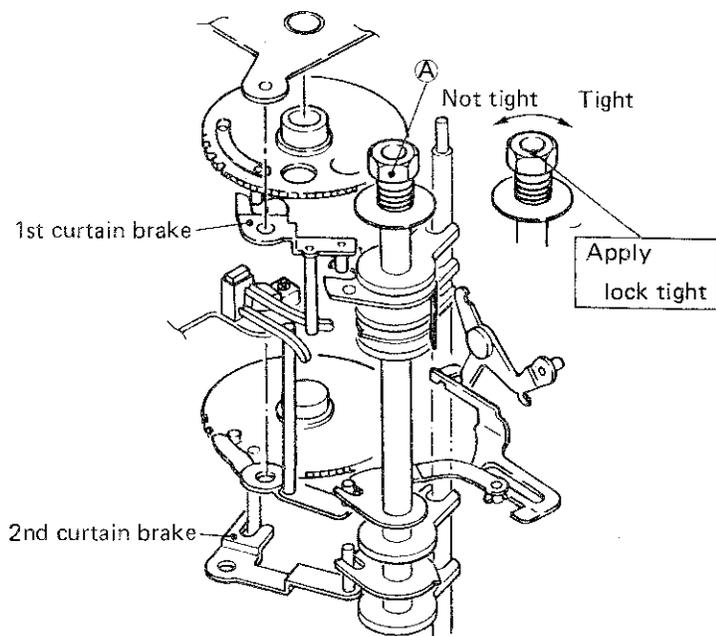

Fig. 64
Adjustment for above #A and #B will be made by turning nut (A) (Fig. 64).